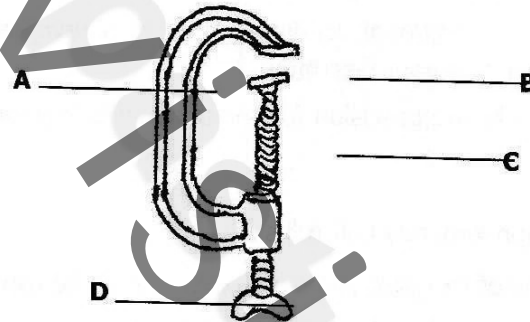

Figure 2
- 4 **Figure 2** shows the drawing of a holding tool.